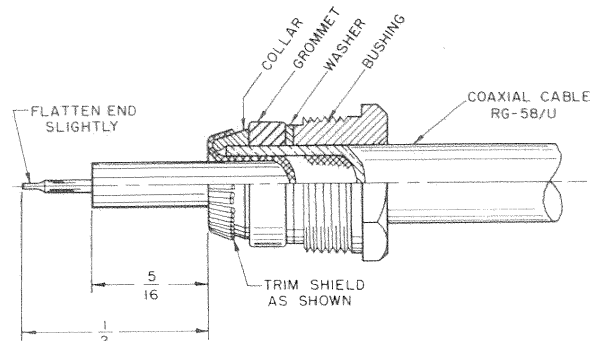

Figure 6-2. Cable Service for Connector Plug
f. Fold the shielding back over the collar and trim, as shown in figure 6-2.